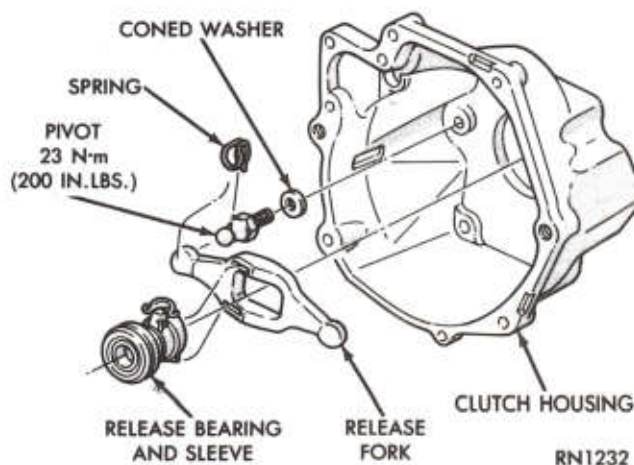

Fig. 2—Release Fork, Bearing, and Carrier
- (1) Remove or install transmission. See "Group 21, Manual Transmission," for procedure.
- (2) Remove or install clutch housing, release fork, and bearing assembly (Fig. 2).